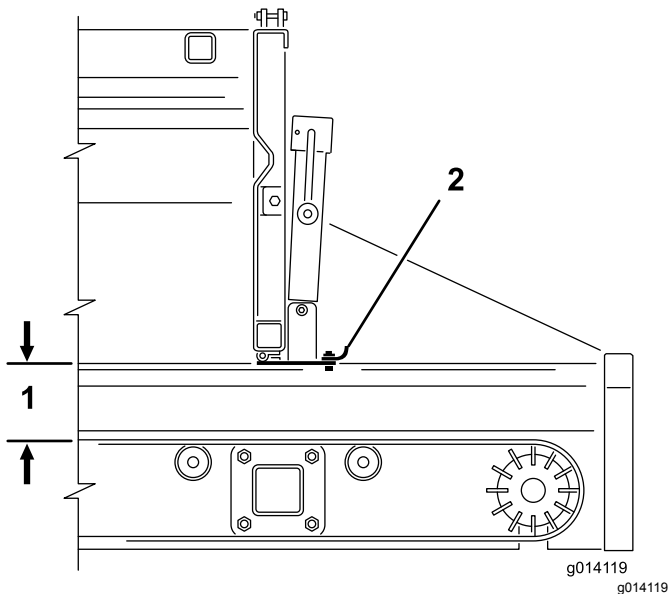

Figure 39
2. Use the jack handle to open or close the adjustable section of the rear gate (Figure 38 and Figure 39). This restricts the flow of materials when using an option.